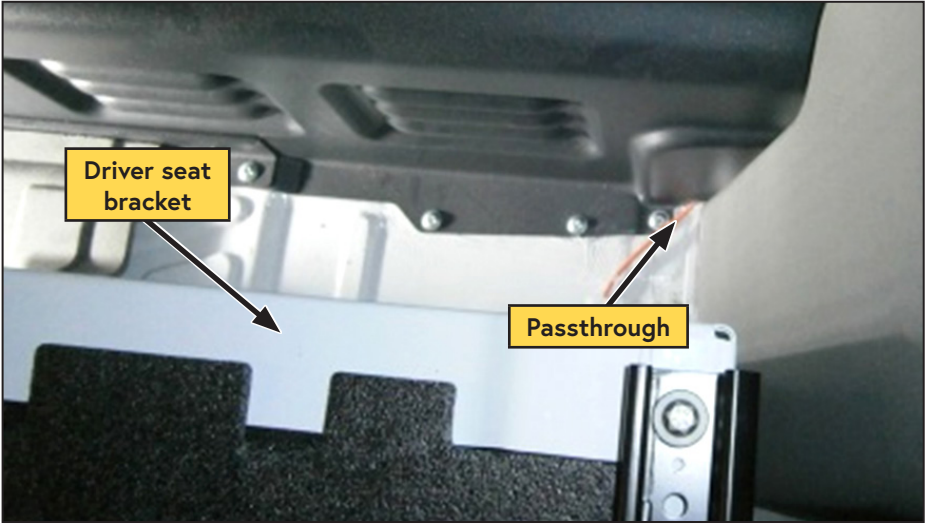

Figure 61 — Bulkhead passthrough
- Route the bundled harnesses through the pass-through in the bulkhead to the cargo bay (Figure 61).